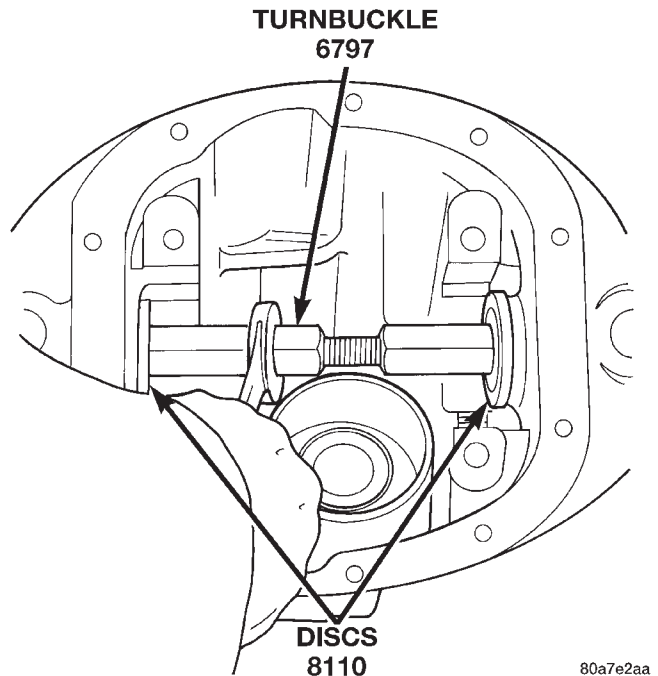

Fig. 33 Axle Seal Installation
- (1) Remove any sealer remaining from original seals.
- (2) Remove sealer from axle tube to housing junction, if necessary.
- (3) Install oil seals with Discs 8110 and Turnbuckle 6797 (Fig. 33). Tighten tool until disc bottoms in housing.
- (4) Install differential assembly.